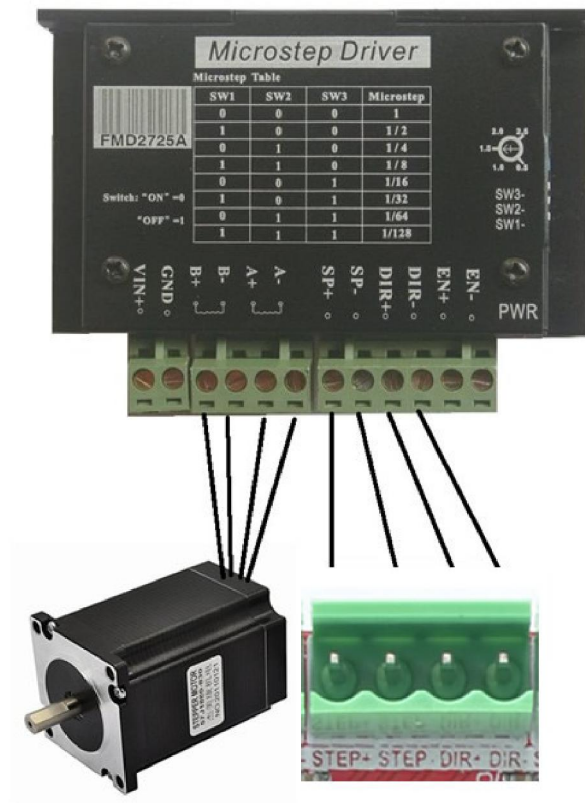

Figure 2-6 Stepper motor driver connection method
- n F) 5-axis stepper motor control signal output , defined as CK+\CK-\DIR+\DIR-.There are positive pulse, negative pulse, positive direction, negative direction. These port are common positive connection. Therefore, on the board of CK + and DIR + are linked together to 5V. So this board does not support the common negative connection. Wiring method refer to Figure 2-6.This card doesn't have EN signal, Most drives on sale should not connected to the EN signal. It is defined as X \ Y \ Z \ A \ B channel from left to right, see as Figure 2-6.